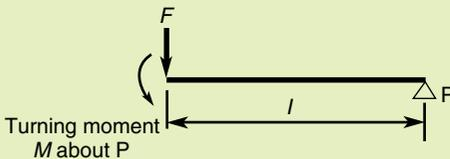

Figure 37
3. Complete the following table, which refers to Figure 37: